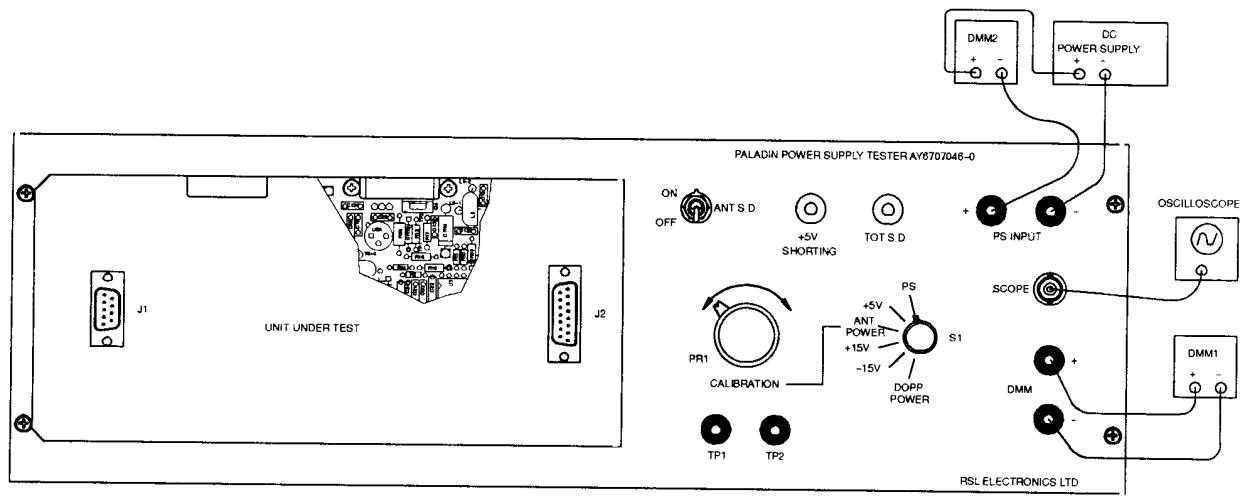
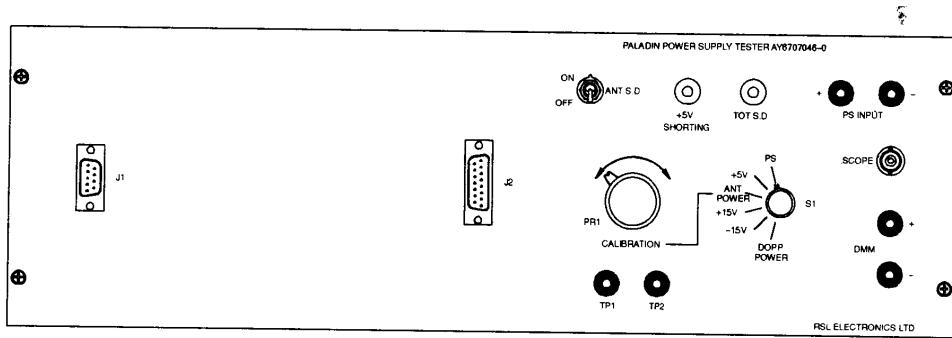

Figure D-26. Power Supply Module Test Setup
Figure D-27. Power Supply Module Test Fixture
D.6.11.1.1 Power Supply Module Test Procedures. The test setup provided in Figure D-26. shows the equipment used and cable hookup for the test procedure. Figures D-27. and D-28. are detailed illustrations of the special testers.
The test setup is shown in Figure D-26. Figures D-27. and D-28. are detailed illustrations of the special testers.
- h. Connect the UUT to the test setup IAW Figure D-26.
D.6.11.4.1 **PREPARATION FOR TEST.** The test is conducted on a disassembled UUT. The test setup is shown in Figure D-29. Figures D-27. and D-28. are detailed illustrations of the special testers.